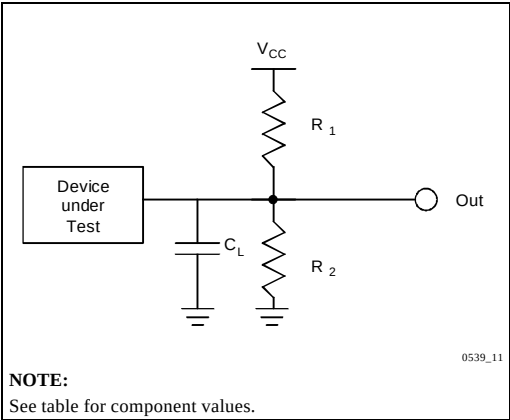

Figure 19. Test Configuration
5. See Test Configurations (Figure19), 2.7–3.6V and $3.3 \pm 0.3V$ Standard Test component values.
6. See Test Configurations (Figure19), 5V Standard Test component values.
- See Test Configurations (Figure19), 2.7–3.6V and 3.3±0.3V Standard Test component values.
- See Test Configurations (Figure19), 5V Standard Test component values.